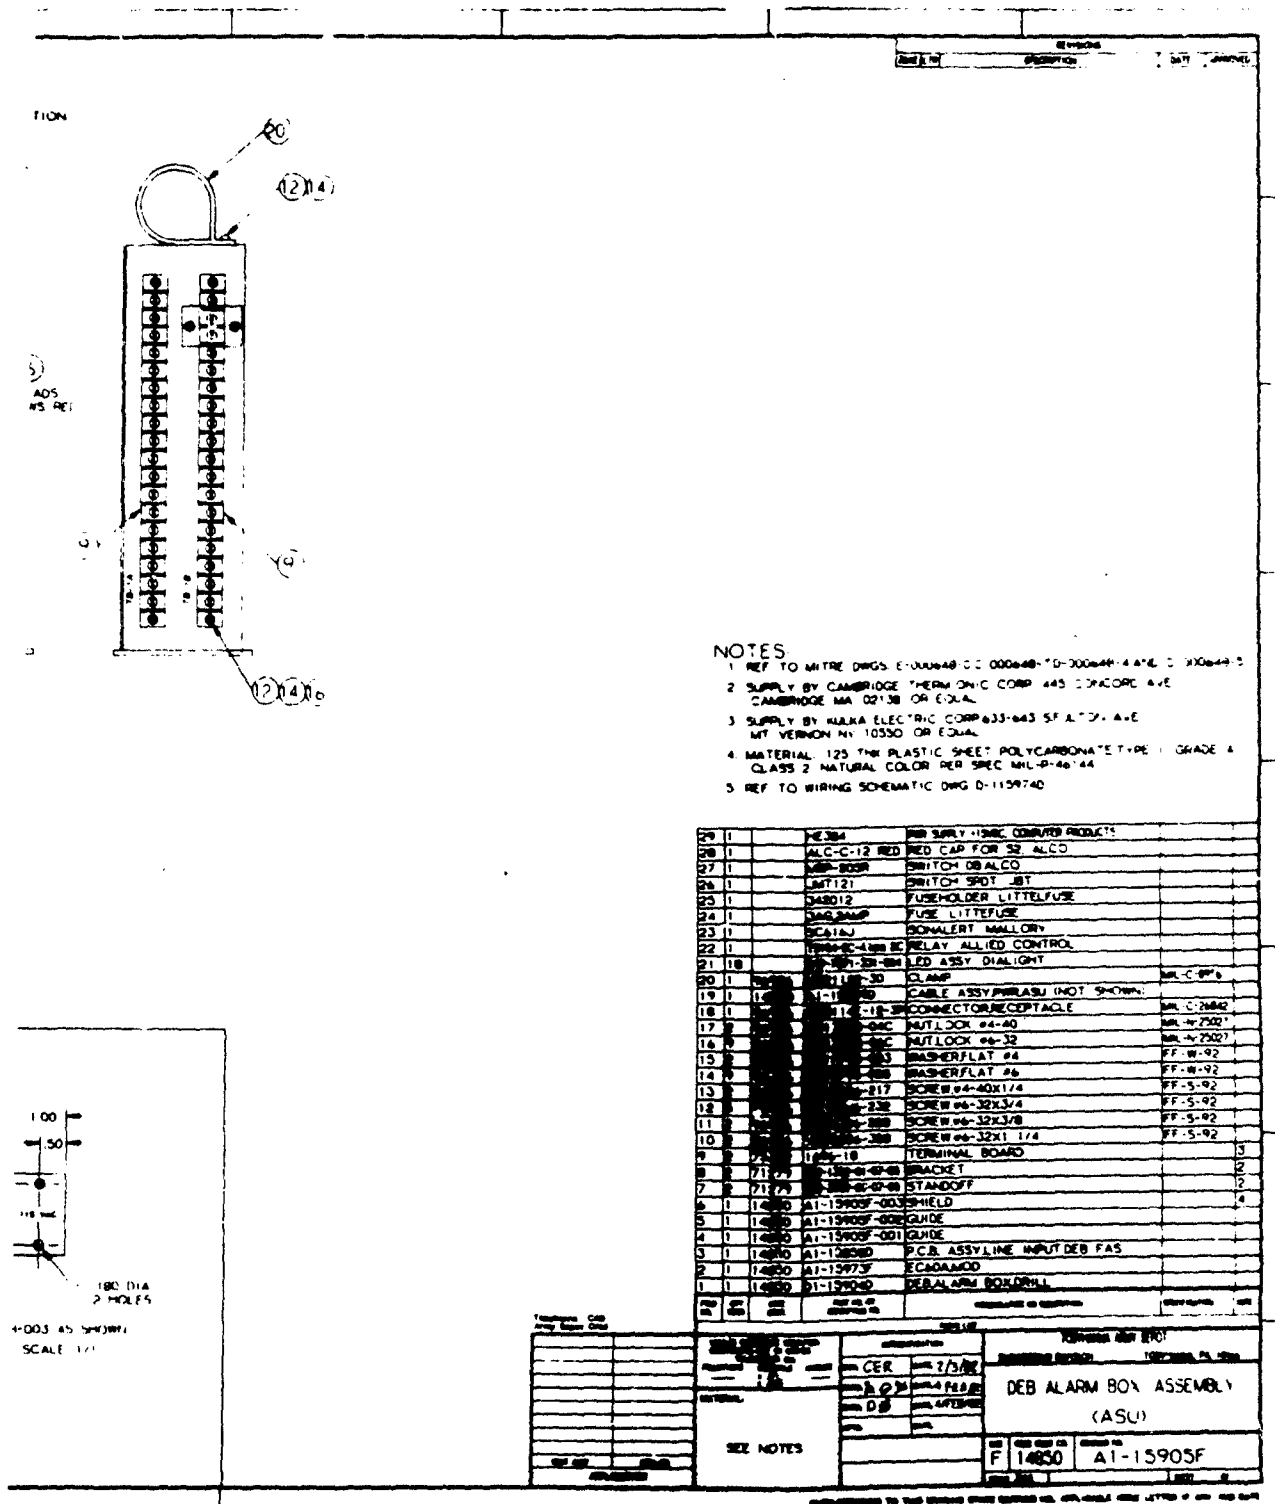

Figure A.7. DEB Alarm Box, Assembly 11
*These three drawings have been replaced by one drawing, figure A.7 entitled, "DEB Alarm Box Assembly."